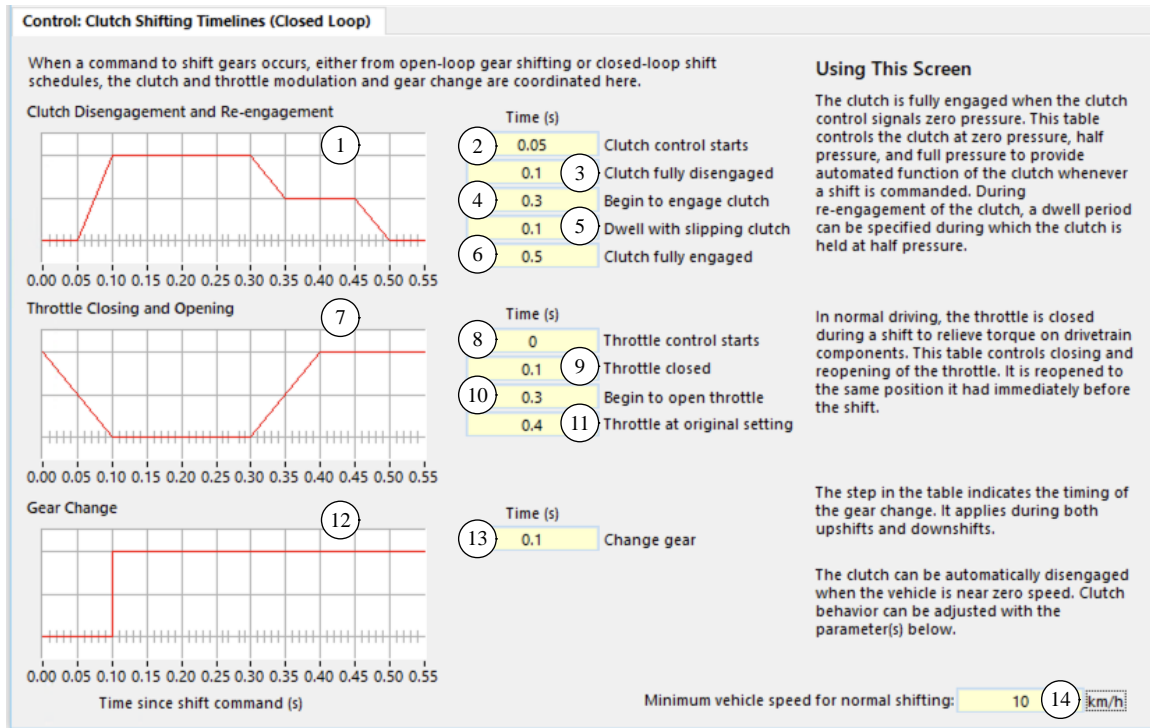
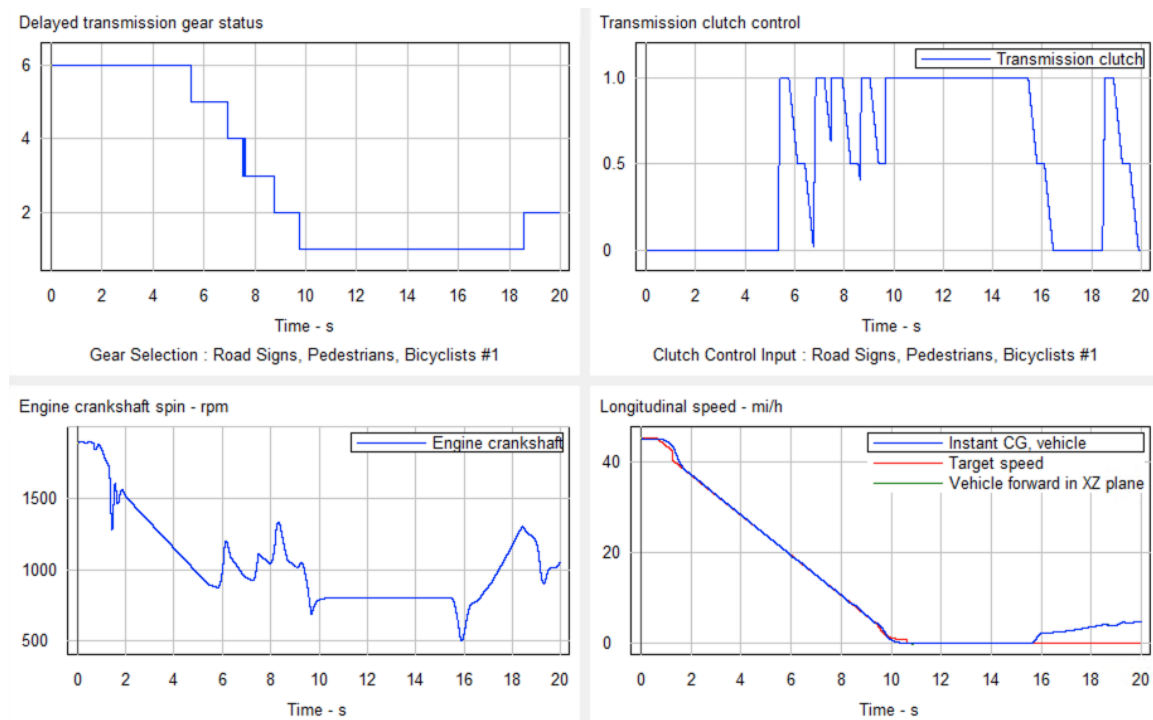

Figure 55. Screen with closed-loop clutch shifting timelines.
Figure 57. Clutch and gear time histories for a vehicle braking situation.
2. A standard sequence can be applied whenever a shifting of the transmission gear occurs. The sequence is defined with parameters that are set from the **Clutch: Clutch Shifting Timelines (Closed Loop)** screen (Figure 55).
The clutch control mode is selected by linking to a control screen, and the information is passed to the math models with the keyword `OPT_CLUTCH_MODE` with a value of 0 for open loop or a value of 1 for the standard built-in sequence. (The closed-loop screen shown in Figure 55 always sets `OPT_CLUTCH_MODE = 1`.)
The timelines shown in Figure 55 (page 66) are applied as shown for upshift or downshift gear changes when the gear changes are separated in time by more than the time needed to perform a change. There are at least three conditions where the timelines are partially used.
Sometimes a simulation requires rapid gear changes, in which the time between shifts is shorter than the time specified for a full shift. For example, Figure 57 shows time histories for a vehicle with manual transmission coming to a stop at an intersection using the speed controller (lower-right plots). The vehicle is stopped at about 10s into the run. The upper-left plot shows the gear being changed sequentially from 6 to 1. The upper-right plot shows the clutch control during the shift changes and stopping of the vehicle.
The first shift (gear 6 to 5) occurs at about 5.5s. Note the change in the clutch control, which shows the same characteristic shape as seen on the Browser screen (Figure 55). The next four shifts occur rapidly (between 7s and 9.6s), such that there is not time for the clutch control to follow the full timeline for each shift. The clutch control is partly disengaged from 7s to 16s. As shown in the plot, the clutch control for each new shift begins immediately without fully re-engaging the clutch. For example, at 7.5s, the shift from gear 4 to 3 is triggered. The clutch has not fully re-engaged from the previous shift (5 to 4), so it increases immediately starting from the current value.
The normal behavior of the closed-loop clutch controller is overridden at low speeds to avoid stalling the engine. When the forward vehicle speed drops below the specified limit `VLOW_CLUTCH` (15, Figure 55, page 66) and the lagged throttle is less than 0.01, the clutch will dis-engage if (1) the brakes are applied (indicating an intention to stop), or (2) a low engine RPM limit `AV_ENG_LOW_CLUTCH` is reached. In the example plots in Figure 57, the clutch is fully disengaged at 9.5s and does not begin to re-engage until 15.5s.